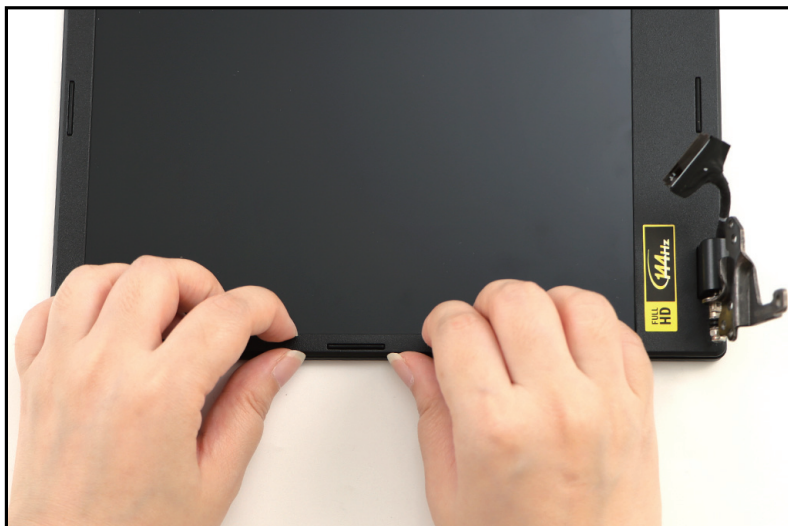

Figure 1-46. LCD Bezel Removal
2. Pry the LCD bezel from the left side to release the latches (Figure 1-46).